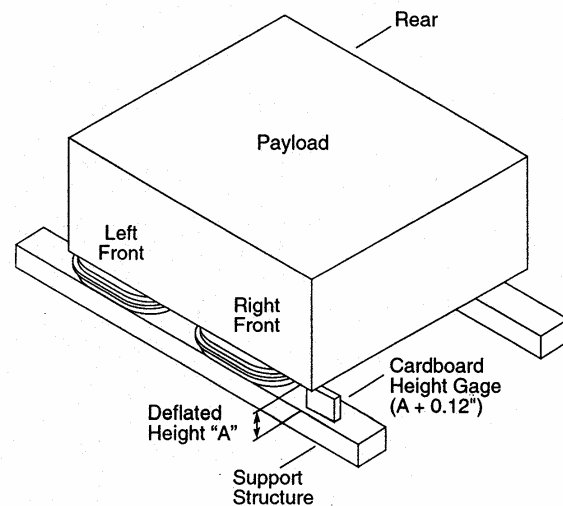

Figure 7 — Adjustment of isolator inflation for Schrader Valve version.
1. Set your payload upon the compact isolation system as shown in Figure 7.
8. Hold the cardboard height gage under the rear edge of the platform as shown in Figure 7. Observe the clearance between the platform and the gage and *slowly* open the "Both Rear" (center) needle valve (Figure 6). The rear edge of the platform will begin to lower. Slowly lower the rear of the platform until it barely touches the top of the gage, then close the valve. The platform should float so that the gage just slips under the platform. Move the gage to the left front and right front in turn and repeat the process using the "left front" and "right front" needle valves.